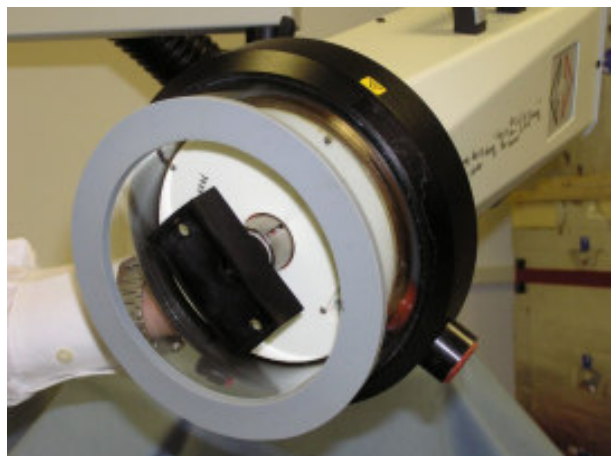

Figure 6
**STEP 3:** Place a conductive shroud (in a size which fits over the UUT) onto the ThermoStream nozzle. Figure 6 shows a conductive shroud on the nozzle. Note: the nozzle tip is connected to the system ground.